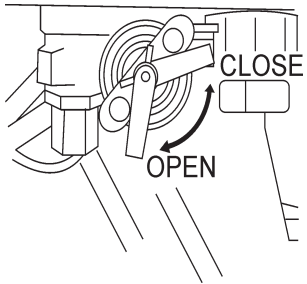

Figure 11. Fuel Cock
1. Open the fuel cock (Figure 11).
3. Close the fuel cock (Figure 11).